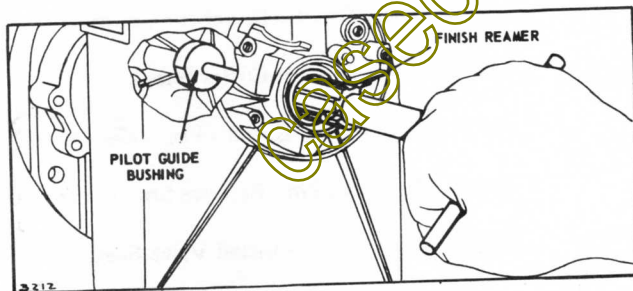

FIGURE 9-8
15. Assemble the finish reamer and the pilot. Put this assembly into the cylinder until the pilot enters the pilot guide bushing in the sump. See figure 9-8.